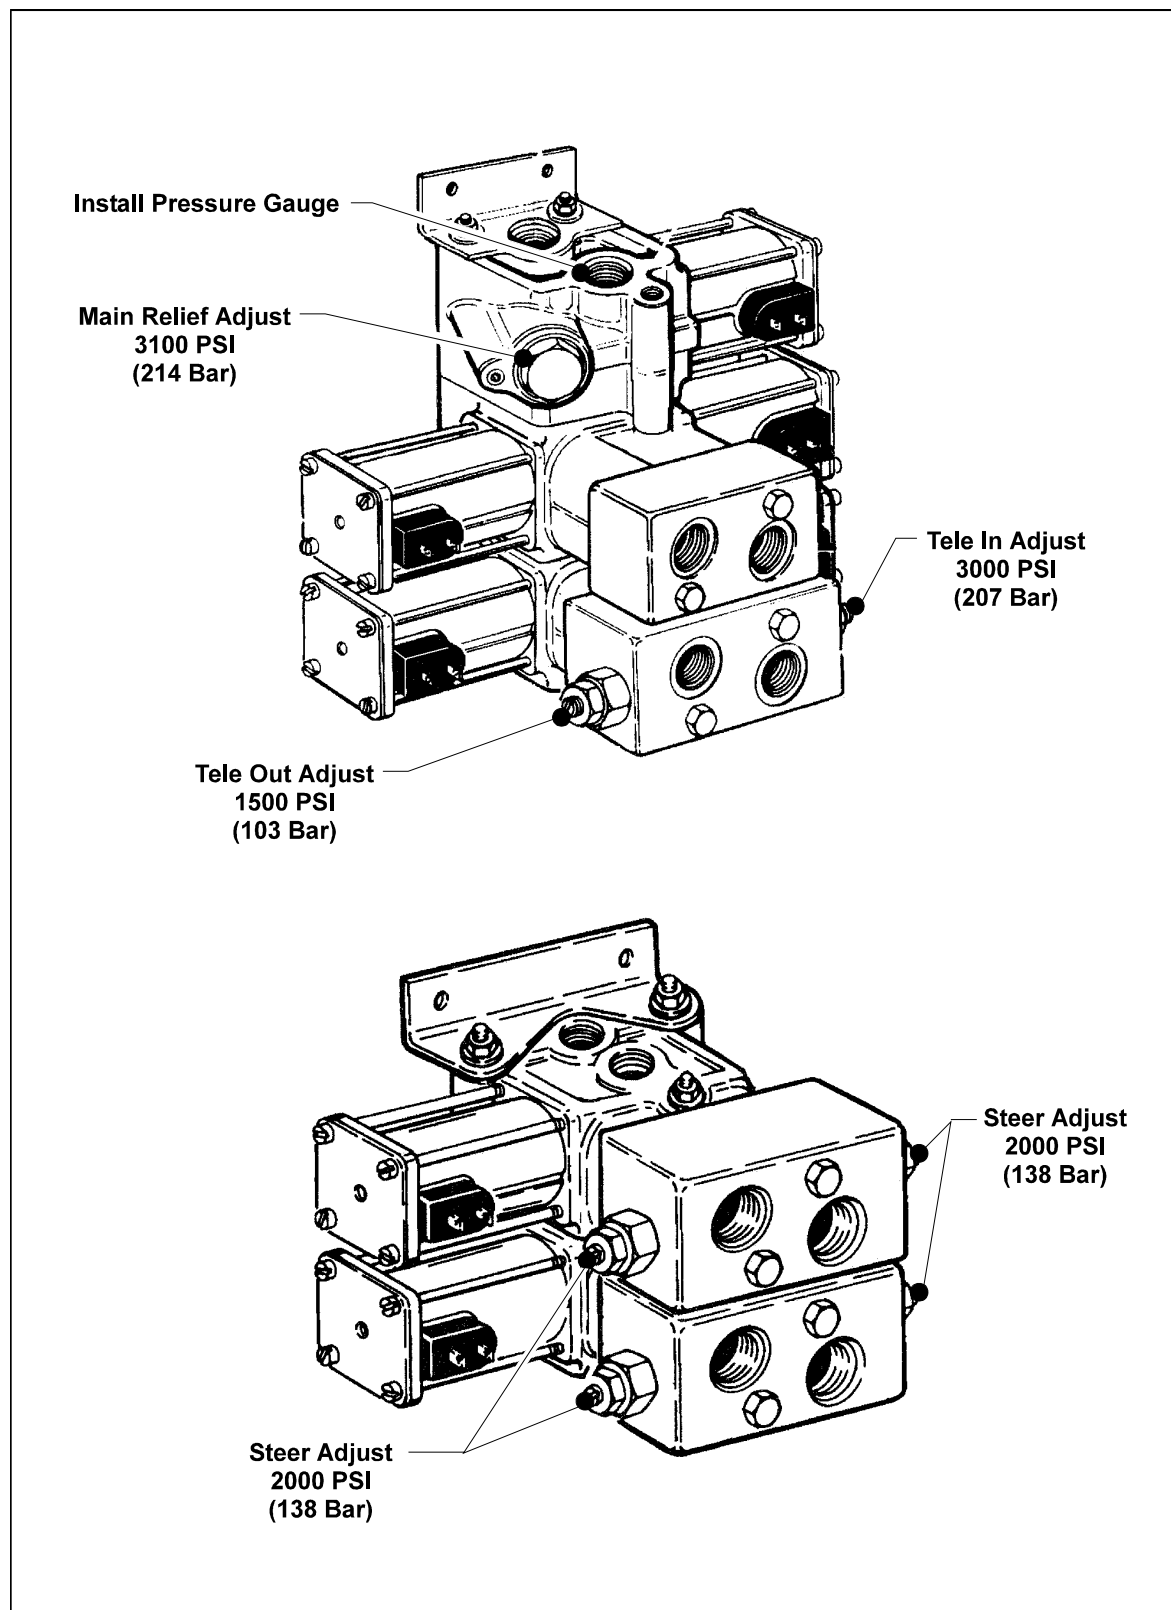

Figure 2-27. Solenoid Valve Pressure Settings - 4 Wheel Steer
4. Solenoid Valve Pressure Settings 4 W/S are shown in Figure 2-27.